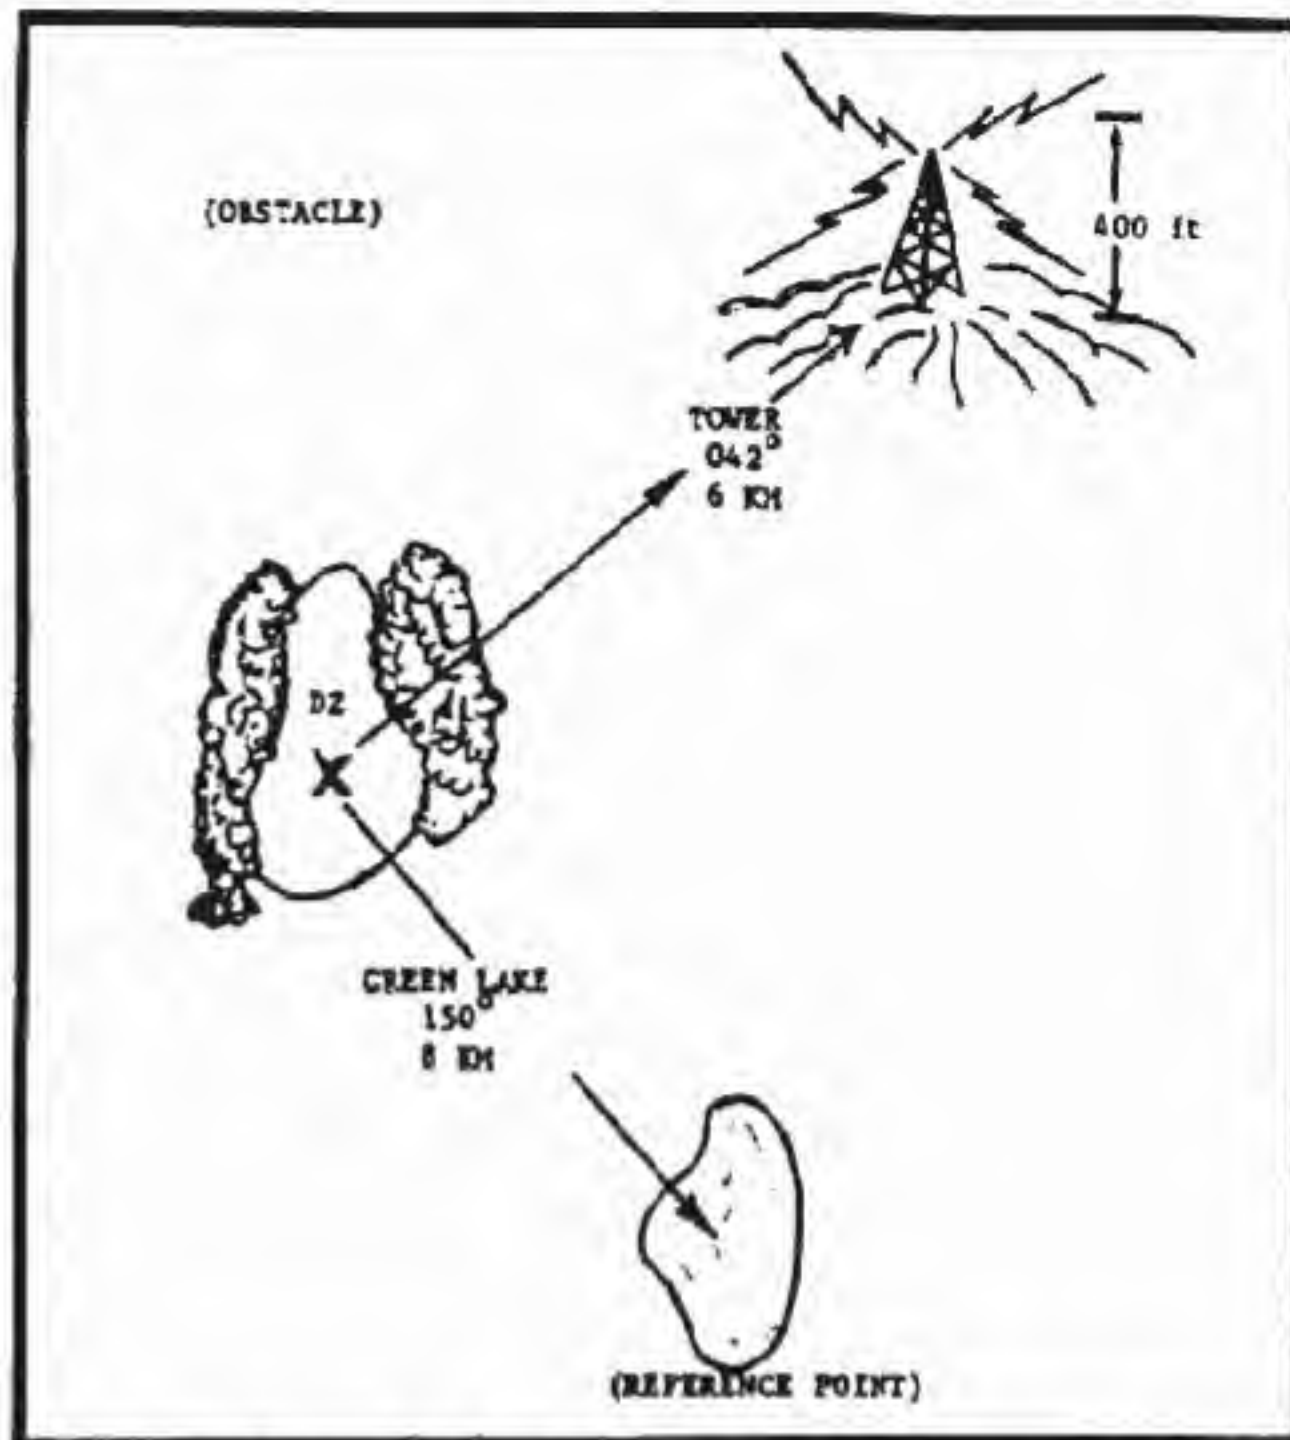

Figure 4. Reporting obstacles and reference points
- (5) Obstacles. Those that are over 300 feet (90 meters) in elevation above the level of the DZ, within a radius of 5 miles (8 kilometers) and which are not shown on the issued maps. Obstacles are reported by description, magnetic azimuth, and distance from the center of the DZ (Figure 4).
- (6) Reference point. A landmark shown on the issued maps, reported by name, magnetic azimuth and distance from the center of the DZ (Figure 4). Used with (2) above in plotting the DZ location.